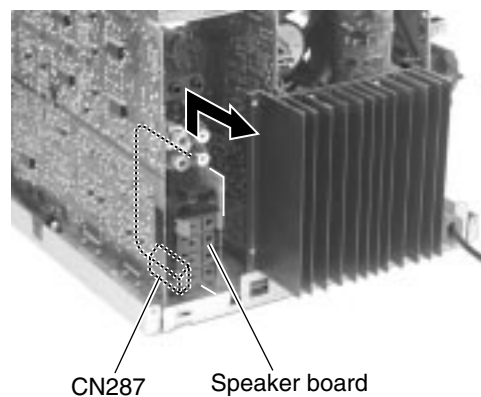

Fig.20
■ Removing the speaker board (See Fig.20)